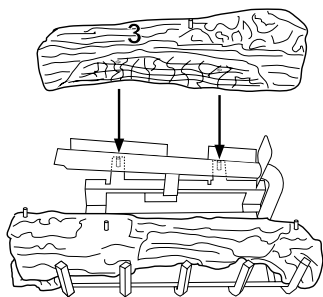

Figure 42- Installing Log No. 3
3. Place log #3 (rear log) onto pins on rear of grate as shown in Figure 42.